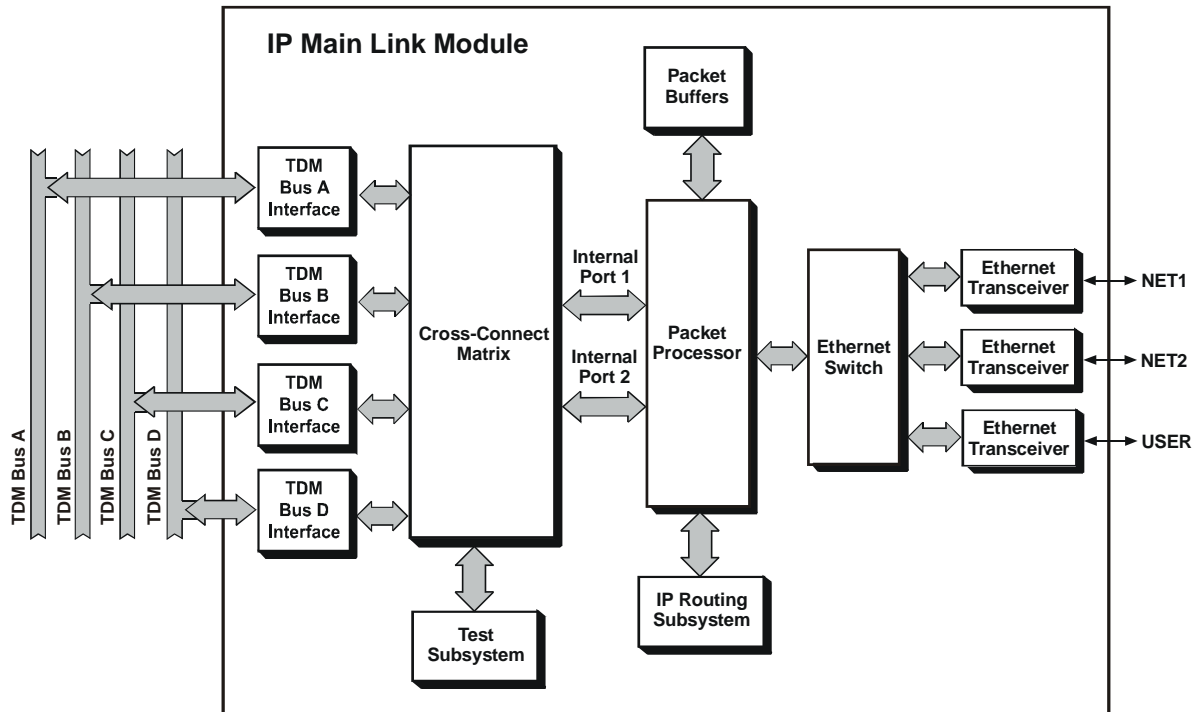

Figure 1-11. IP Main Link Module, Functional Block Diagram
*Figure 1-11* shows the functional block diagram of a typical dual-link TDM main link module. An 8-port main link module block diagram is similar, differing only in the number of ports (8) and buses (8). The module includes TDM bus interfaces, a full-function cross-connect matrix, link interfaces and a test subsystem.
*The matrix also controls the flow of inband management traffic between the CL module and the appropriate link interfaces. The management connection is not shown in the simplified diagram of Figure 1-11, because it uses a different communication channel and therefore does not occupy timeslots on the TDM buses.*